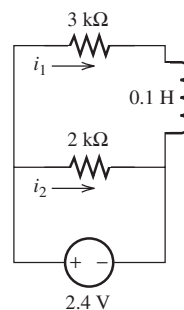

FIGURE P4.34 Circuit with an inductor.
4.34 (B) Find i_1 in the circuit as shown in Figure P4.34.